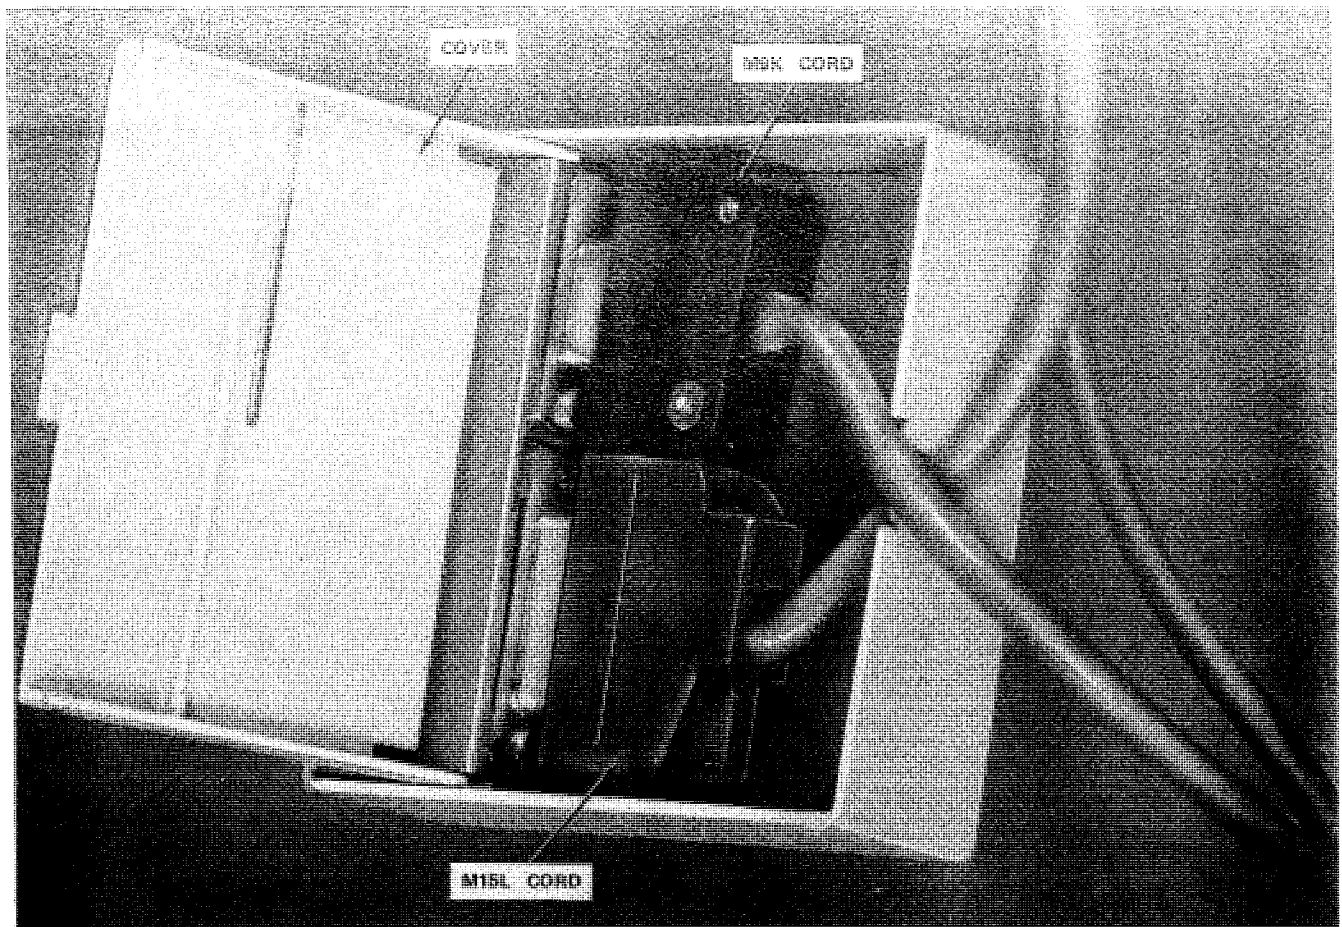
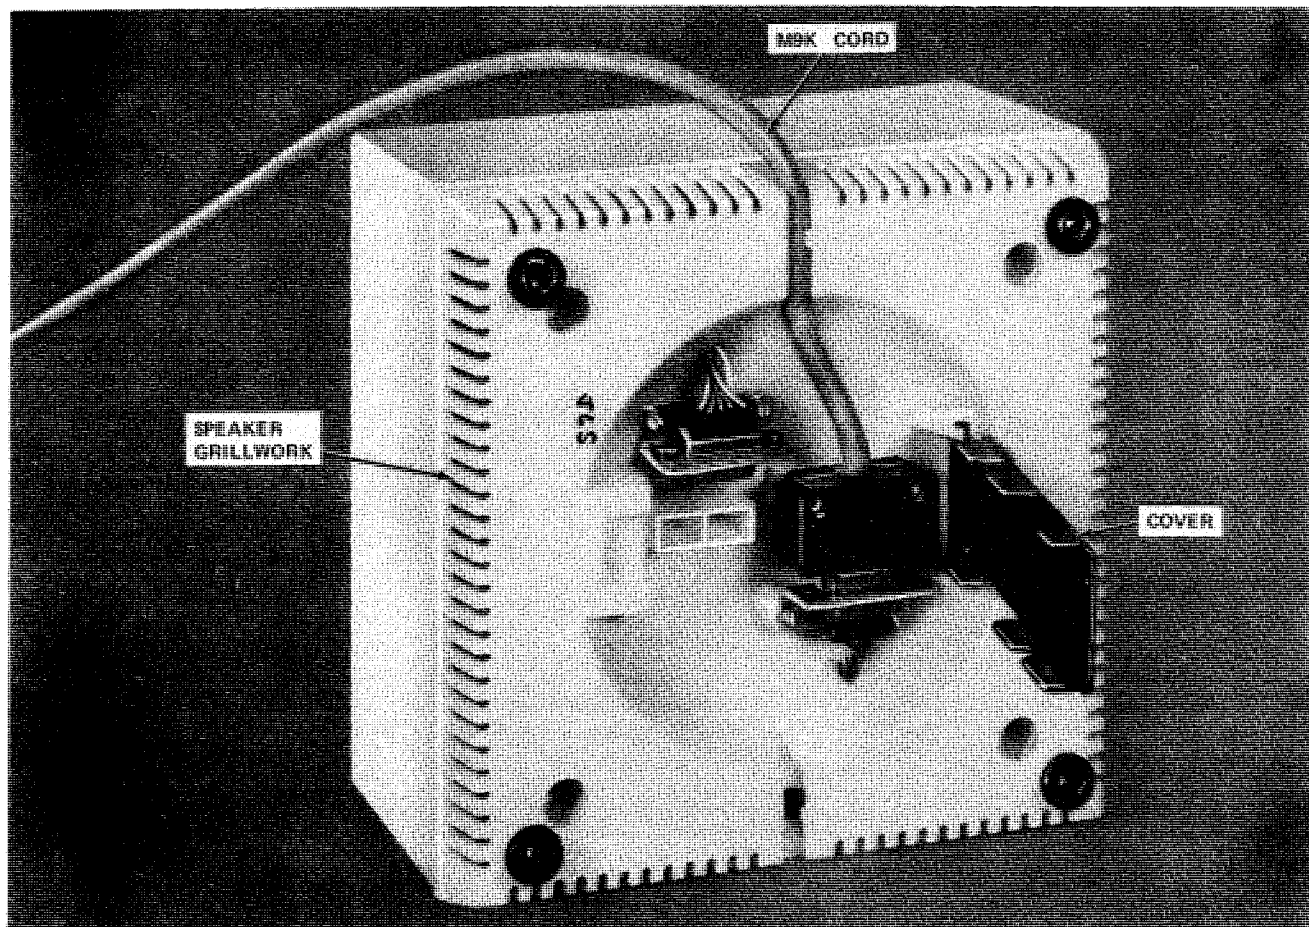

Fig. 10—Cover Open on Bottom of 106A Control Unit With M9K and M15L Cords Connected
Fig. 11—Bottom of 114A Loudspeaker Set With Cover Open and M9K Cord Connected
- (13) The opposite end of the 85B1 power unit quad should be connected to the two ac screw terminals on the 122A connecting unit.
- (14) Connect the second quad D-type station cable to KS-21239L5 transformer terminals 1, 2, 3, and 4 only.
- (15) Connect the other end of the quad D-type station cable to the corresponding 122A connecting unit terminals T1, T2, T3, and T4.
- (16) Plug the M15L cord into the appropriate 122A connecting unit receptacle designated CONTROL UNIT on adapter cover.
- (17) Place the 106A control unit upside down and unsnap the hinged bottom cover (Fig. 10) exposing two connectors.
- (18) Plug the other end of the M15L cord into the appropriate connector of the control unit.
- (19) Connect the M9K cord into the remaining connector of the 106A control unit and close bottom cover.
- (20) Insert the other end of the M9K cord into the bottom of the optional 114A loudspeaker set, if used (Fig. 11).
- (21) If the 4A speakerphone system loudspeaker (108AA) is to be used in place of the 114A loudspeaker set, plug the cord directly into the 1A microphone.